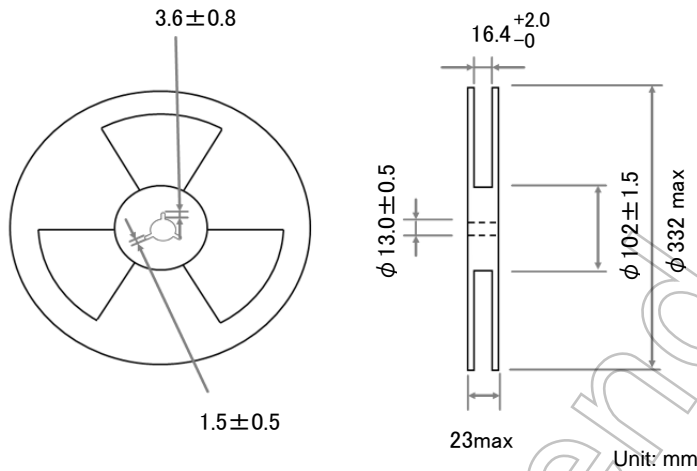

Figure 4 Reel Forms
(2)Dimensions: The reel dimensions are as shown in Figure 4.